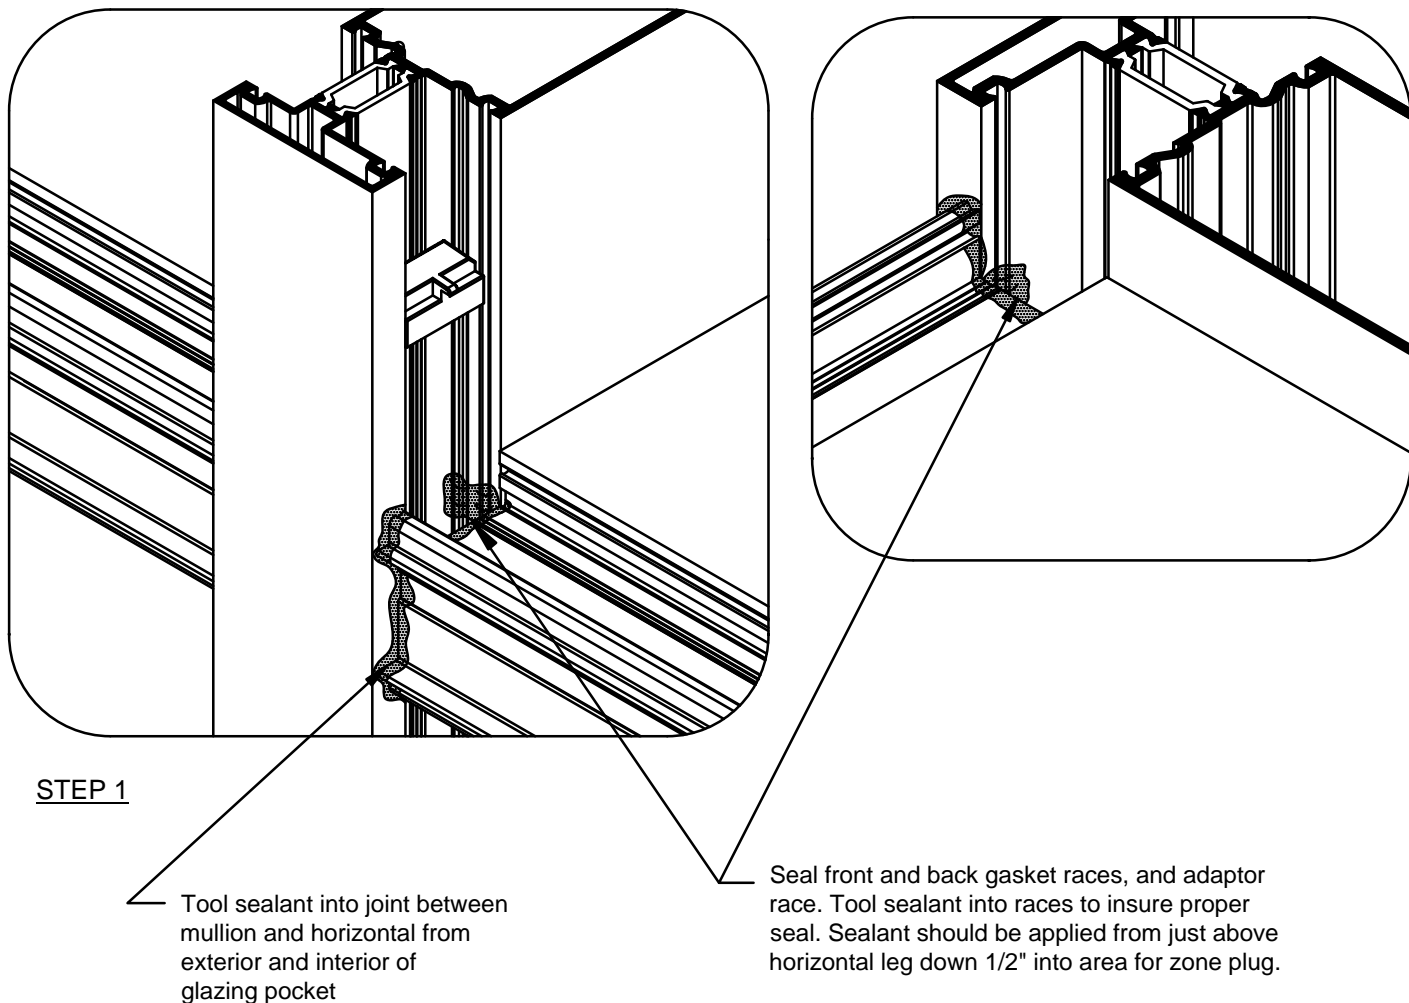

FIGURE 15
- 2.5 Apply sealant to all contact surfaces on vertical and horizontal mullions where zone plugs will be installed. Install at the end of each horizontal mullion by sliding plug down into pocket from above. Tool sealant around all sides of the zone plug in the glazing pocket to ensure a watertight seal SEE FIGURE 15 below & page 20 for System 1, SEE FIGURE 16, page 21 for System 2 installation .
FIGURE 15 cont.